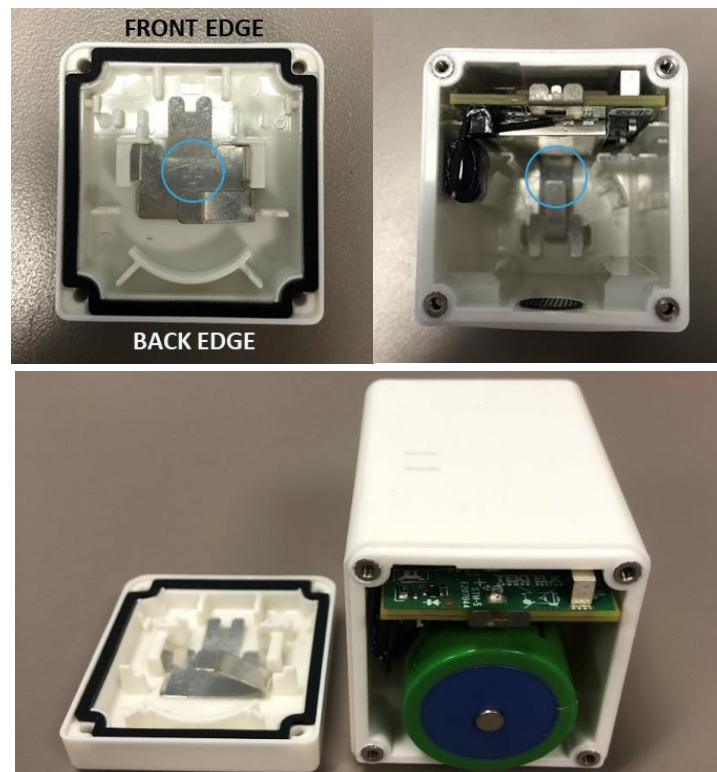

Figure 2-6: Polarity Markers and Battery Insertion
2. Remove the depleted battery and replace it with a new 3.6V Lithium Thionyl Chloride C-size battery **ONLY**. Insert the battery negative terminal side first. The battery contact on the battery cover is the positive contact and is marked with a plus-sign as shown in Figure 2-6.